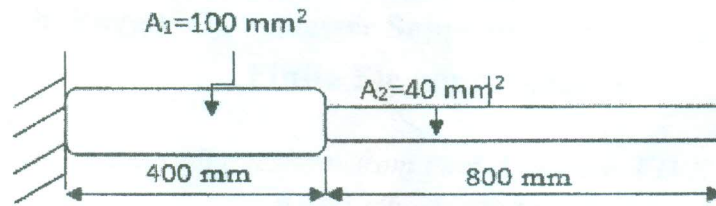

Fig.4
15. For a stepped bar shown in Fig.4,